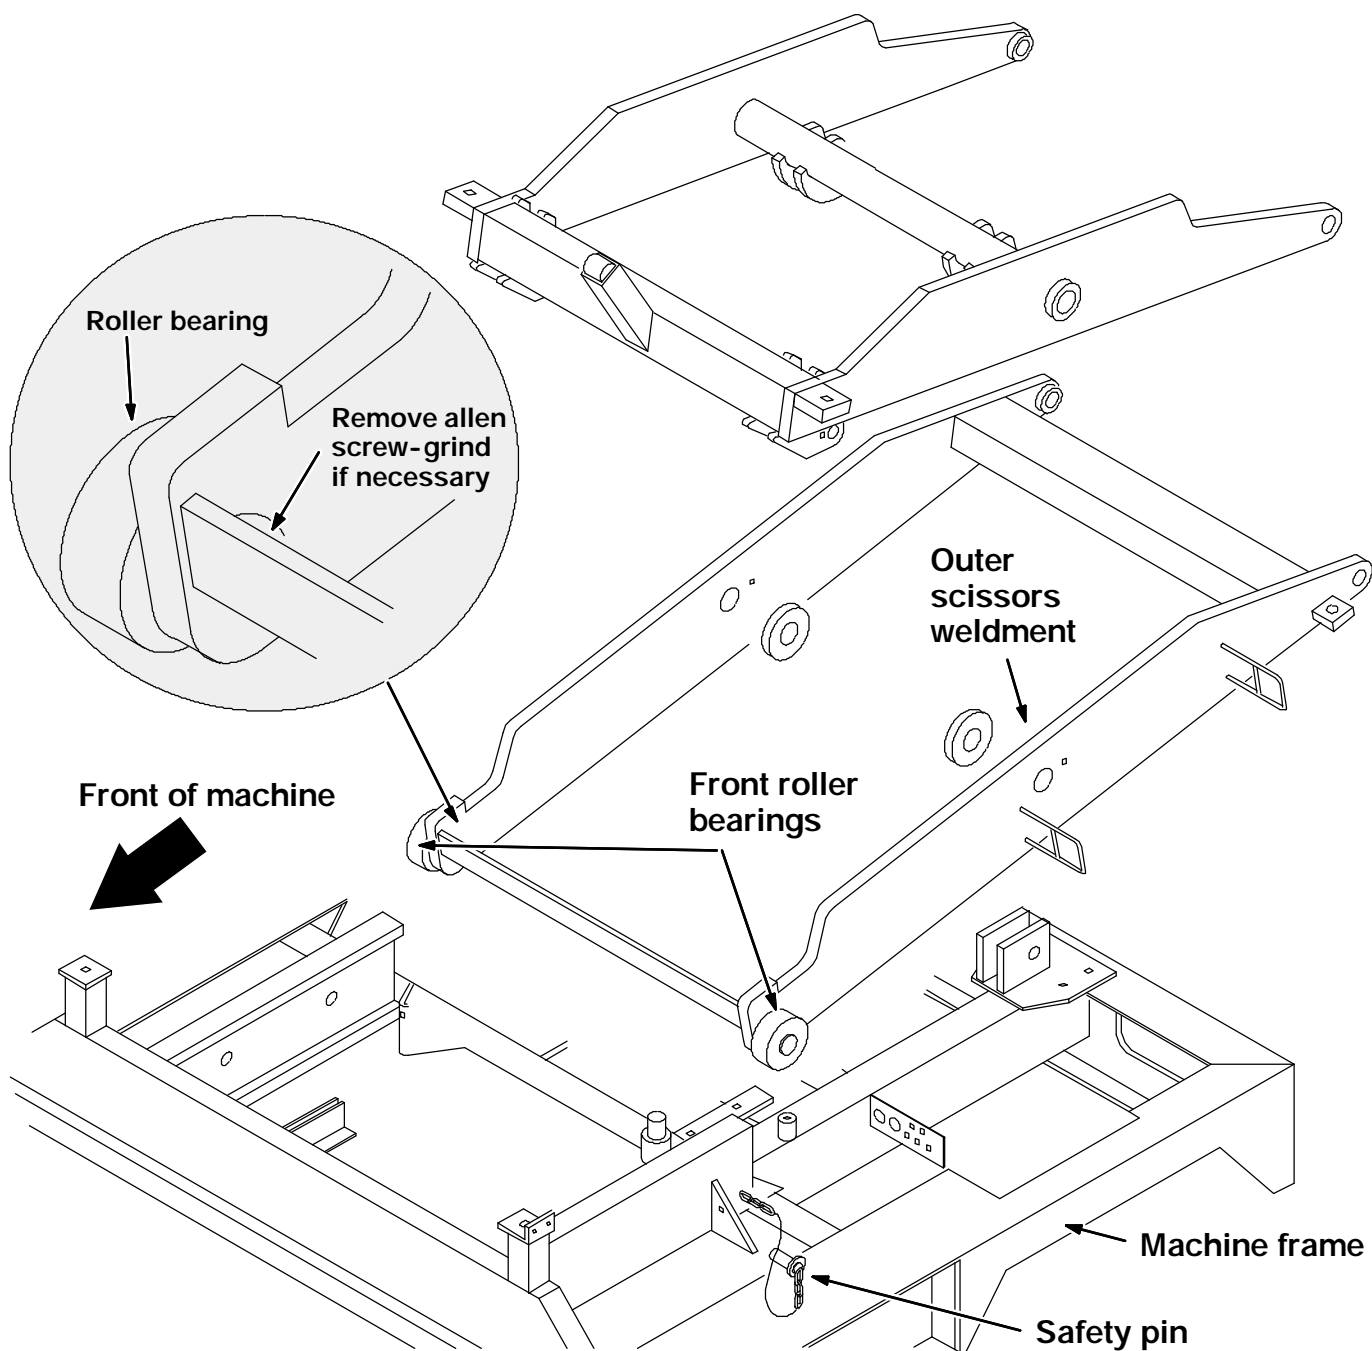

FIG. 1 - Zerk Location
(Refer to FIG. 1)
2. Locate the roller bearings at the front corners of the outer scissors lift weldment. Each bearing has an allen screw installed in the area of the welded end of the bearing shaft on the inside of the scissors weldment. (Refer to Fig. 1)
3. The allen screw may be partially or completely covered with weld slag. Use the die grinder with the cutter tool to remove the weld material. Remove the allen screw once the weld slag has been ground off. (Refer to Fig. 1)
4. Install the grease zerks (1) from this kit into the threaded holes. (Refer to Fig. 1)
5. Fill the bearings with grease. (Refer to Fig. 1)